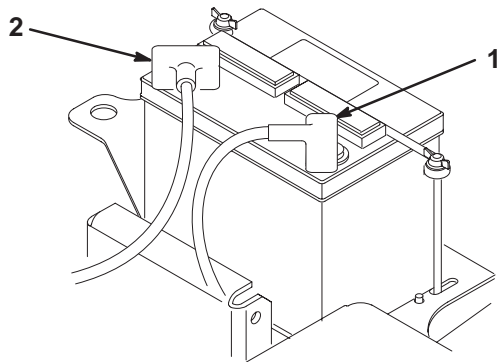

Figure 7
- Connect the positive battery cable (red) from the starter solenoid to the positive post (+) of the battery (Fig. 7). Secure it with a wrench and coat the terminal with petroleum jelly. Make sure the cable will clear the seat, in the rear-most position, which could cause wear or damage to the cable.